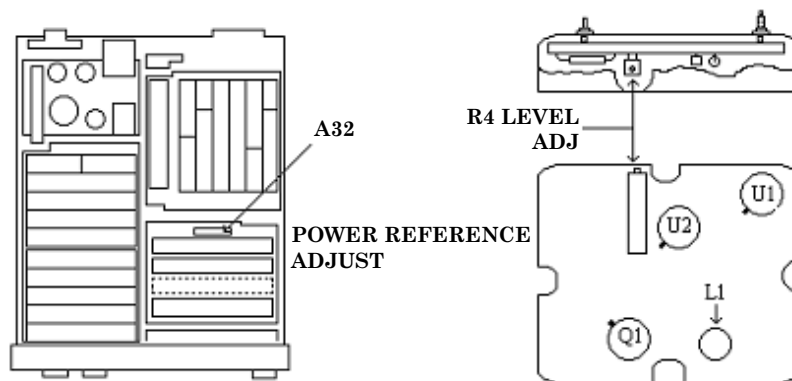

Figure 17. A32 board.
- (1) Disconnect equipment setup.
- (2) Connect TI **CALIBRATION RF POWER OUTPUT** to TI sensor module.
- (3) Press TI keys as listed in (a) through (e) below:
(4) If TI frequency indication is not between 49.5 and 50.5 MHz remove the thumb screw retaining the A32 oscillator and slide the assembly out. Adjust A32L1 (fig. 17) for 50 MHz \pm 0.5 MHz.
(10) Adjust A32R4 LEVEL ADJ (fig. 17) to adjustment value calculated in (10) above. (R)
(11) Disconnect equipment setup.